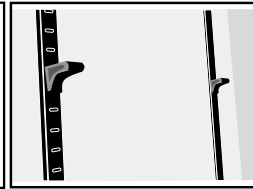

Figure 12.3
3. To reposition the shelf, place the support clips into the selected slot, top first and then the bottom of clip will lock in place when pushed back (Figure 12.3).